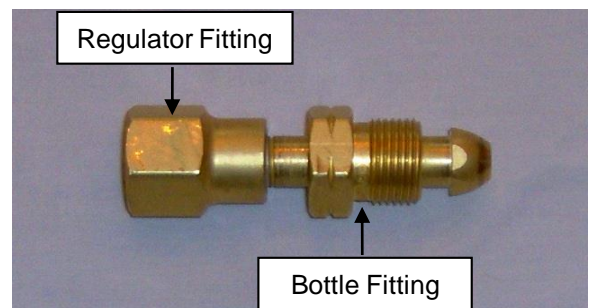
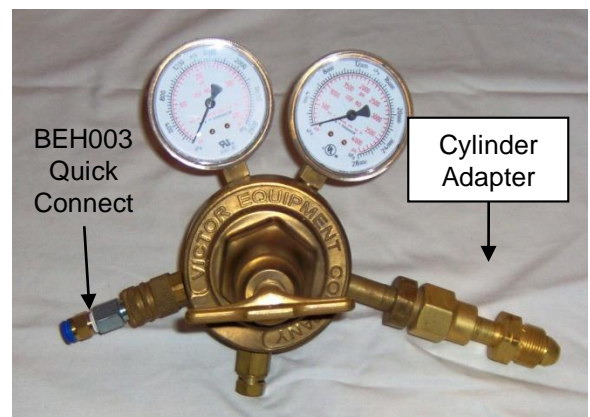

Figure 1
Figure 2
Important Note: Compressed Air Cylinders are supplied with a Female left-hand thread Bottle fitting (CGA-590). Pressure Regulators BEREG01 or BEREG02 supplied in the Blowing Head Equipment Kit have a Male right-hand thread Nut (CGA-580). A CGA-590 Industrial Air Cylinder-to-CGA-580 Nitrogen Regulator Cylinder Adapter is therefore required to connect the Pressure Regulators to the Bottle fitting. One (1) Cylinder Adapter is required for each Pressure Regulator used. **See Fig. 1 and Fig. 2.**